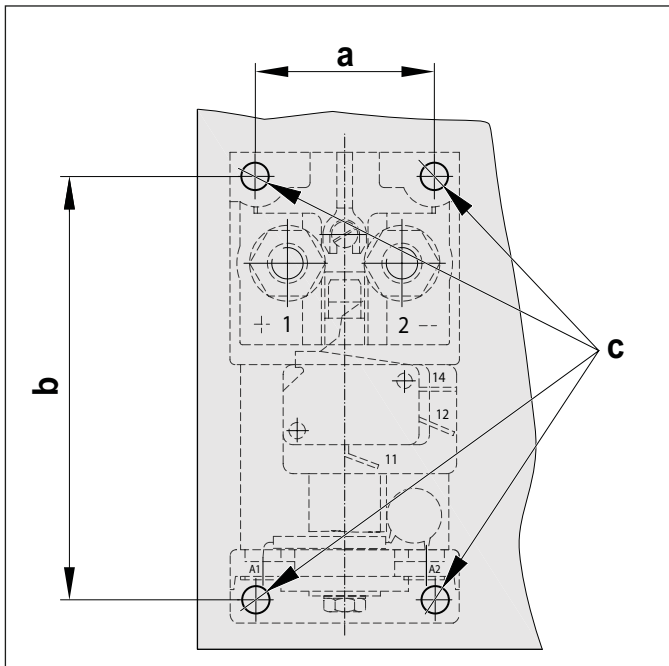

Fig. 17: Dimensions and arrangement of the mounting holes
- ▶ For the fastening of the contactor an appropriate mounting plate with 4 mounting holes (c) according to **Fig. 17** has to be provided.